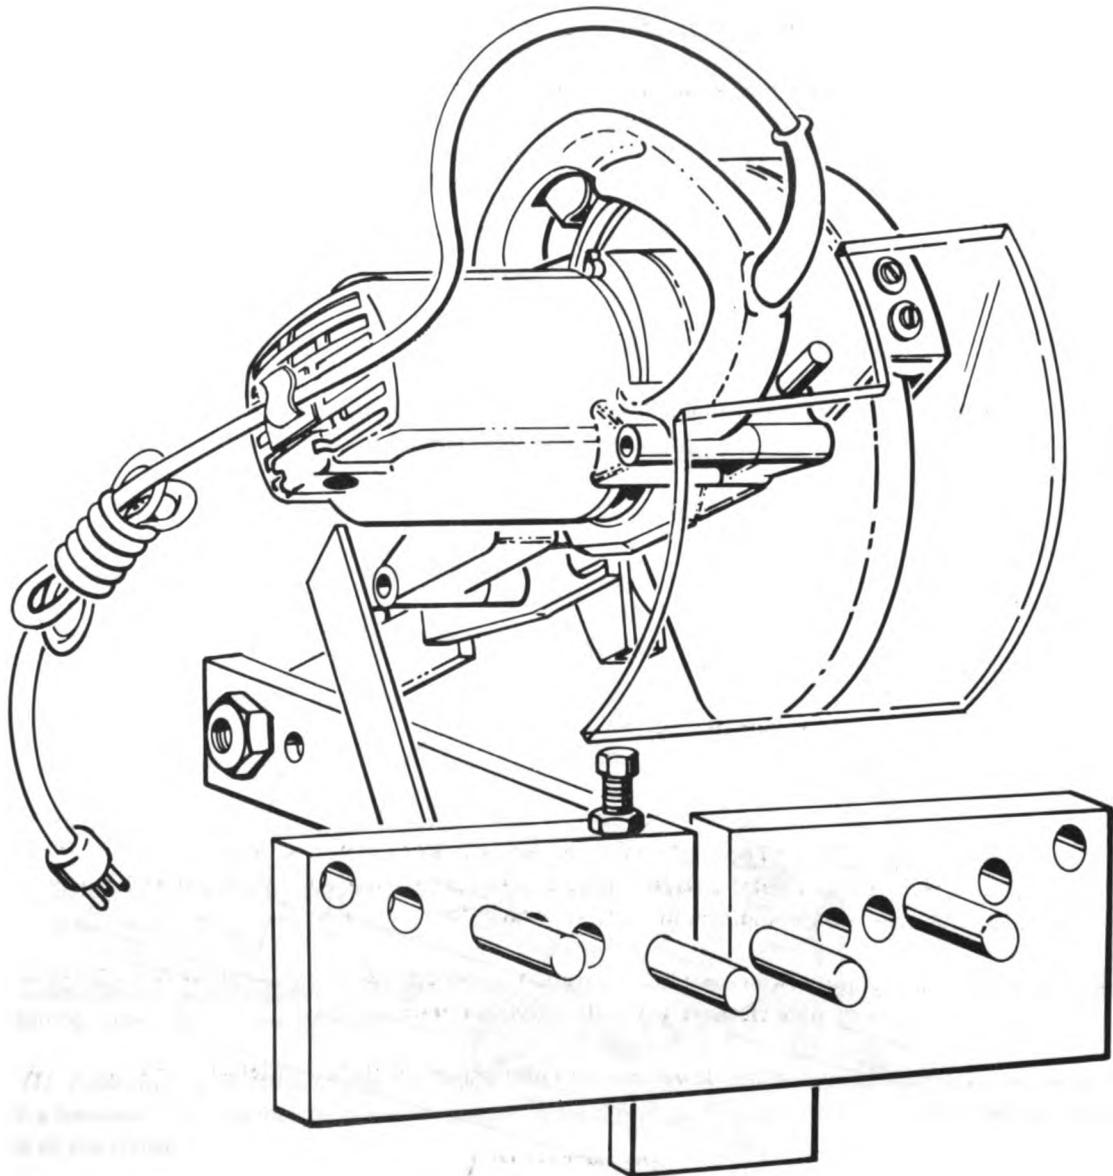

Figure 1-12. Hose Cutting Saw.
(1) Hose Cutting. A 120V, electric power saw with a friction burn blade is installed in the HSTRU for hose cutting (see Figure 1-12).